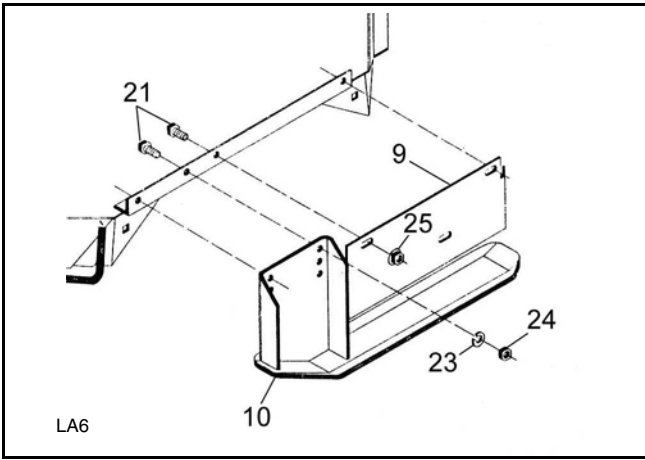

Figure 5. Side Skid and Side Shield
Attach side shield (9) to mower with 3/8 x 1" bolts (21) and 3/8" flanged lock nuts (24). Insert bolts from inside out. See Figure 5.